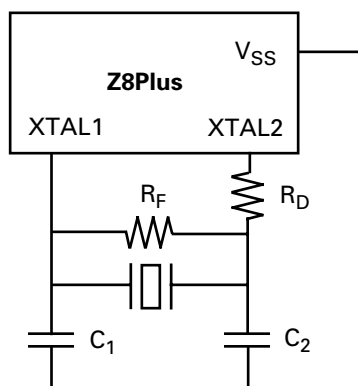
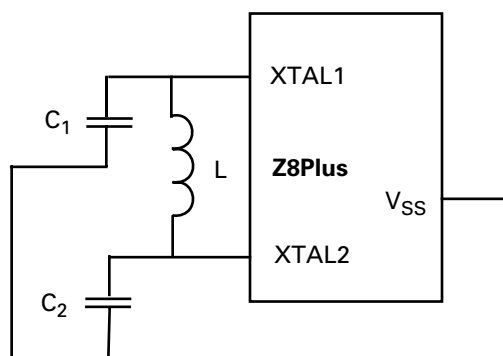
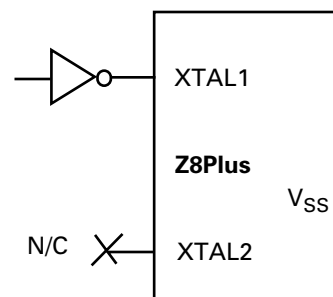

Figure 16. Crystal/Ceramic Resonator Oscillator
Figure 17. LC Clock
Figure 18. External Clock
Crystals and ceramic resonators (Figure 16) should exhibit the following characteristics to ensure proper oscillation:
Depending on the operation frequency, the oscillator may require additional capacitors, C_1 and C_2 , as illustrated in Figure 16 and Figure 17. The capacitance values are dependent on the manufacturer's crystal specifications.
Figure 16, Figure 17, and Figure 18 recommend that the load capacitor ground trace connect directly to the V_{SS} (GND) pin of the Z8Plus. This requirement assures that no system noise is injected into the Z8Plus clock. This trace should not be shared with any other components except at the V_{SS} pin of the Z8Plus.
The Z8Plus oscillator can use an inductor capacitor oscil-lator (LC) network to generate an XTAL clock (Figure 17). The frequency stays stable over V_{CC} and temperature. The oscillation frequency is determined by the equation: